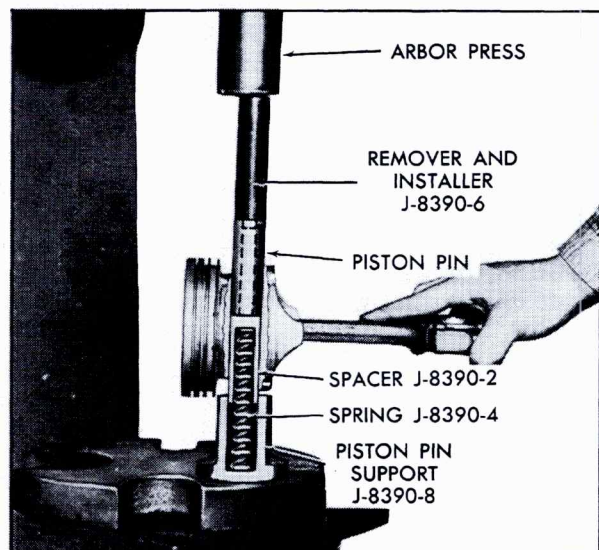

Fig. 6-134 Piston Pin Installation
2. Place Piston Pin Support, J-8390-8, on arbor press with Spring, J-8390-4, and Spacer, J-8390-2, with open end over spring in position in Support, Fig. 6-134.
4. Position piston with connecting rod on Piston Pin Support, and insert piston pin into position as shown in Fig. 6-134.